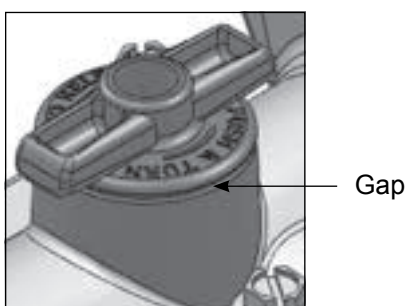

Figure 1.4
- Once the pump is pressurized the plug will pop up slightly engaging the security latch (**figure 1.4**), thus preventing accidental removal. While the plugs can be removed under pressure, the operator must intentionally push the plug in and then, whilst still holding the plug in, twist counter-clockwise on the plug. It is possible to abort plug removal part way through the process.